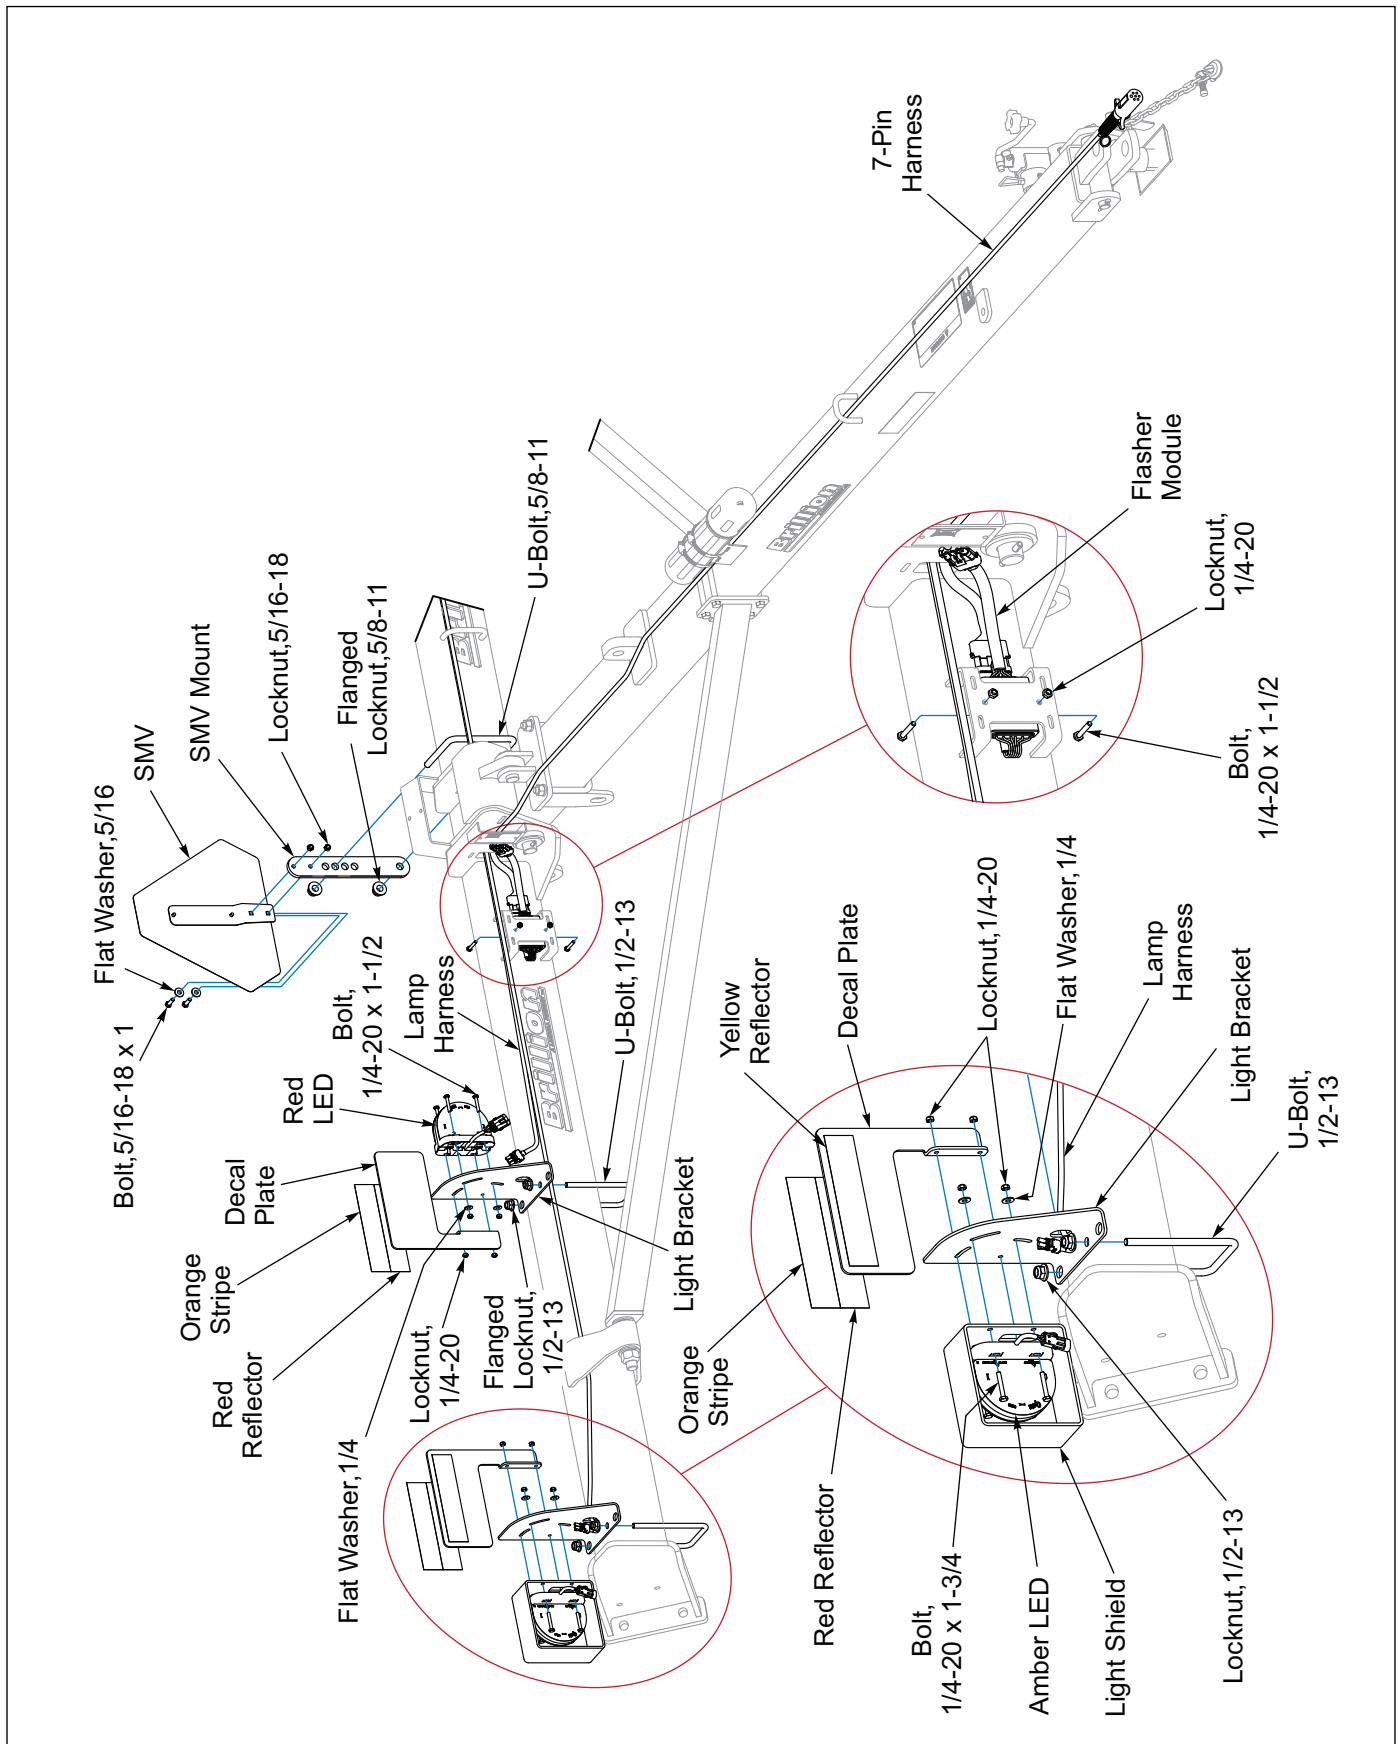

Figure 2-22: Pulverizer with No Lift: LED Lamp and Harness Installation, 10FT - 16FT Models Only
1. Install the outer Light Mount Brackets approximately 2-1/2" from the Frame Bearing Hanger Plate, using 1/2-13 U-Bolts and Locknuts. **See Figure 2-22.**
14. Apply the reflector decals to Decal Brackets. The amber reflector decals should be front facing on the outer Decal Brackets. The red reflector decals and orange decals should be rear facing on both the inner and outer Decal Brackets. **See Figure 2-22.**